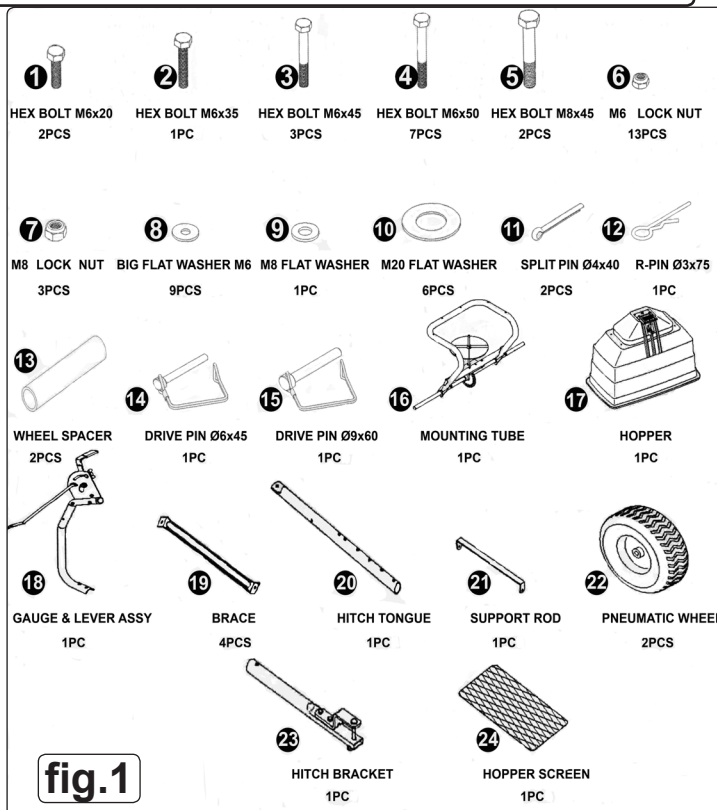

fig.1
- 4.1. Check contents against fig.1 above, if anything is missing or damaged contact your local Sealey dealer.